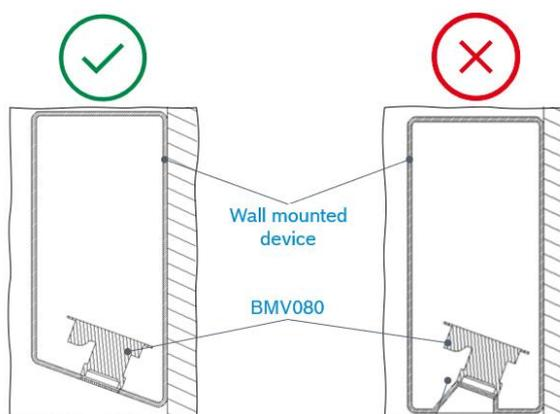

Figure 18: Schematic of BMV080 (facing down) when mounted closer to wall on host to ensure laminar airflow
- It is recommended to ensure laminar air flow conditions to get best BMV080 sensing performance by following the guideline as per Figure 18